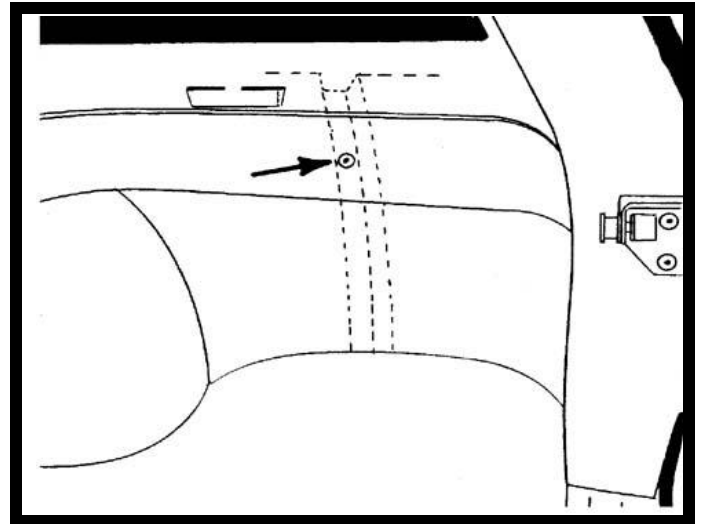

FIGURE 2
2. Carefully drill a 3/8" hole in location previously marked. **CAUTION: Drill through plastic only, do not drill through sheet metal brace behind plastic.** See Figure 2 .